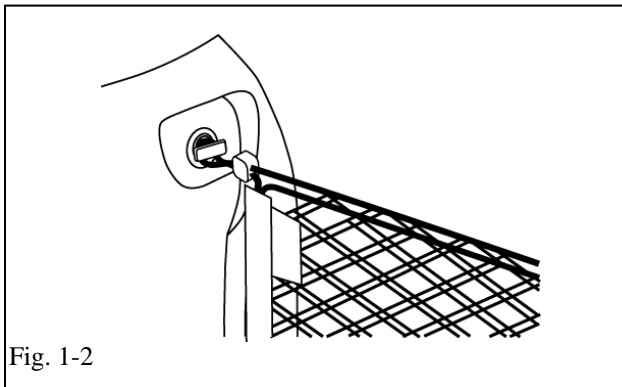

Fig. 1-2
- (c) Attach the loop at the top of the net to the vehicle hook on the vehicle as shown (Fig. 1-2).